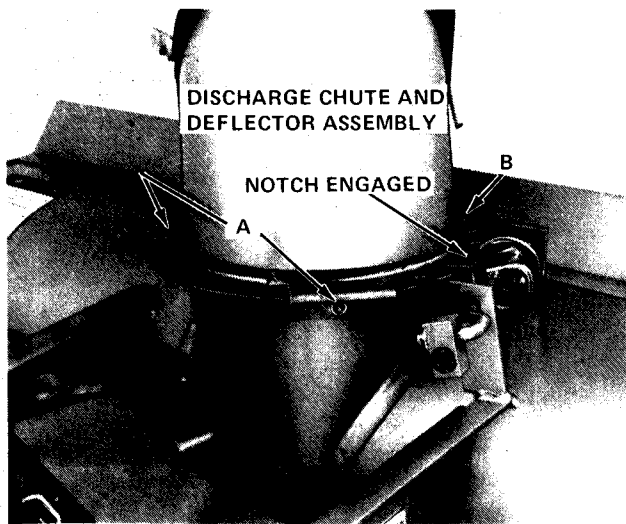

FIGURE 1
1. Apply a light coating of grease to the underside of the chute base ring and position the chute and deflector assembly on the auger housing as shown in Figure 1 and 2. The notches in the chute base must engage the worm type control as shown.
Place the three chute guides over the base ring as shown in Figure 1 and 2. Align holes in guides with the three square holes in auger housing and secure at Points A with round head carriage bolts with nuts to the outside. Secure at Point B with a hex head bolt.